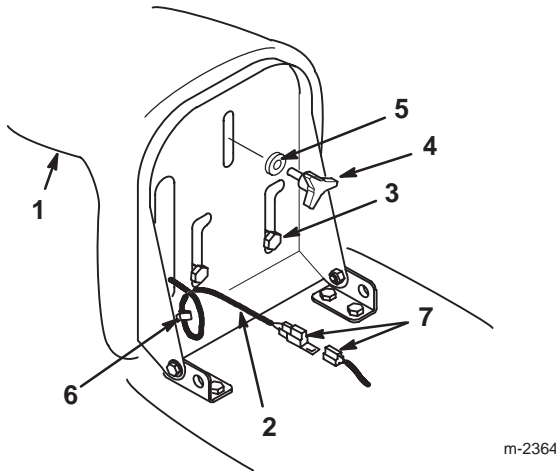

Figure 3
1. Insert the seat switch wire cable through the hole in the seat base (Fig. 3).
2. Position the seat onto the seat base by inserting 2 shoulder bolts through the key hole openings at the end of both slots (Fig. 3).
3. Thread the knob and flat washer through the slot and into the rear center hole in the seat (Fig. 3).
5. Push the seat switch connector fully into the wire harness connector (Fig. 3).
6. Secure the seat switch wire cable to the seat base with the wire clip (Fig. 3).